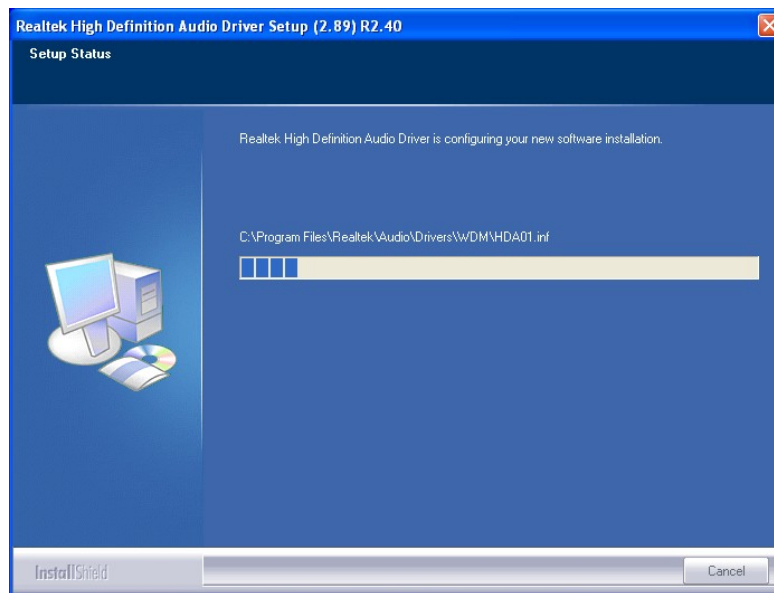

Figure 7-15: Audio Driver Installation
Step 6: The audio driver installation begins. See **Figure 7-15**.